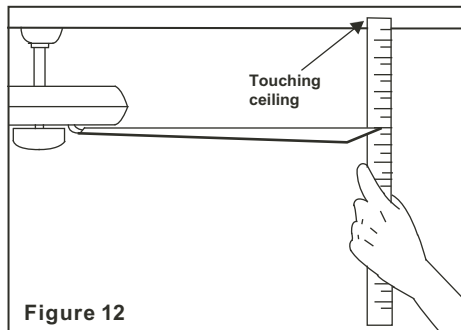

Figure 12
2. Most fan wobbling problems are caused when blade levels are unequal. Check this level by selecting a point on the ceiling above the tip of one of the blades. Measure this distance as shown in Figure 12. Rotate the fan until the next blade is positioned for measurement. Repeat for each blade. The distance deviation should be equal within $1/8"$.